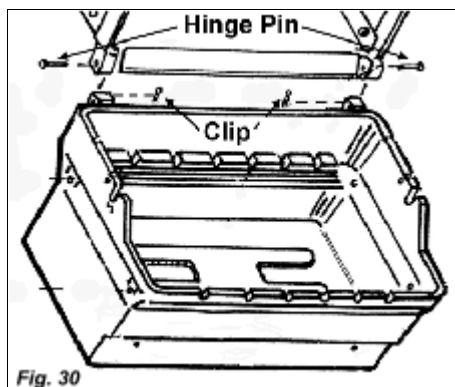

Fig. 30
Step 4: Attaching the Grill Lid (Fig. 30)
(See JNR/ WNK instructions on page 18, Fig. 30.)